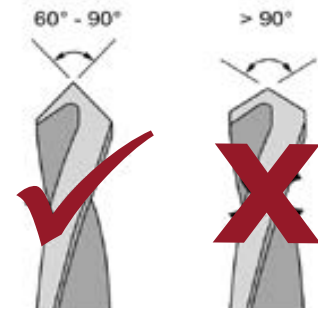

Figure 9A
- HSS (high speed steel) twist drills specifically made for metals or plastics can be used and will have a point angle of between 60° - 90°. (FIG. 9A)
- Hole saws can be used to cut the Wilsonart® Backsplash but must be the type designed to cut metal sheets, and the pilot drill must have a point angle of between 60° - 90°. (FIG. 9A)